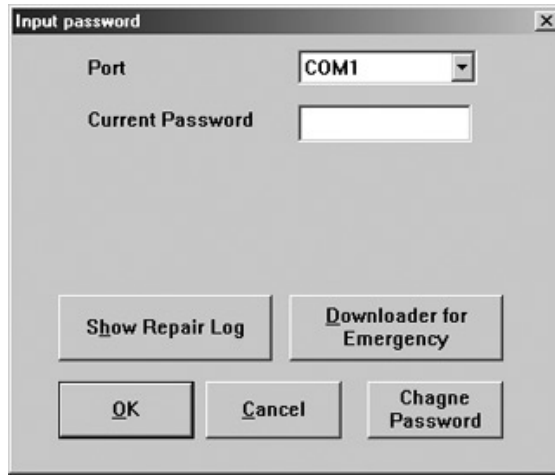

Figure 1
2. To change the password, enter the current password in figure 1, and then click "Change Password".
3. To check the usage status of tools, click "Show Repair Log" in figure 1.